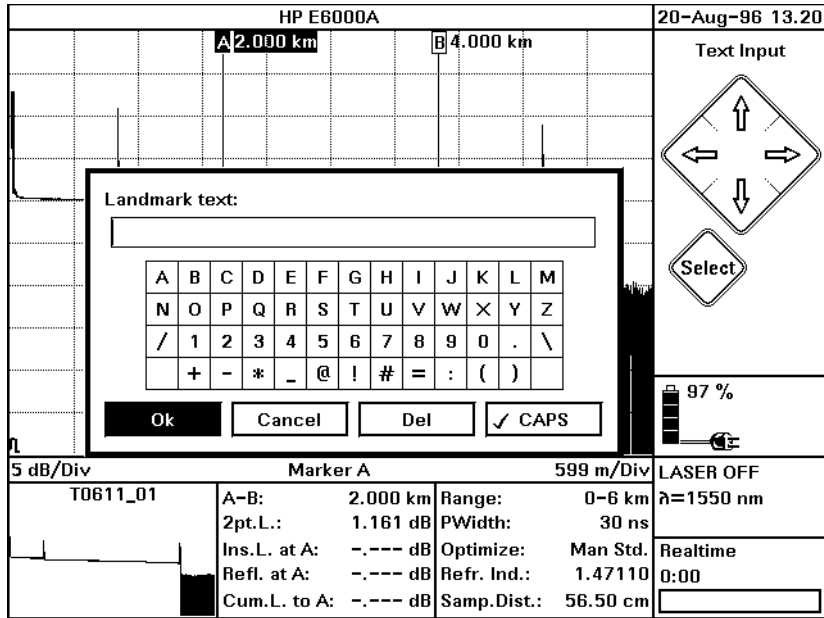

Figure 4-1 Landmark text box
You see a screen keyboard asking you to enter the Landmark text (Figure 4-1).
- 4** You see a screen keyboard, similar to Figure 4-1.